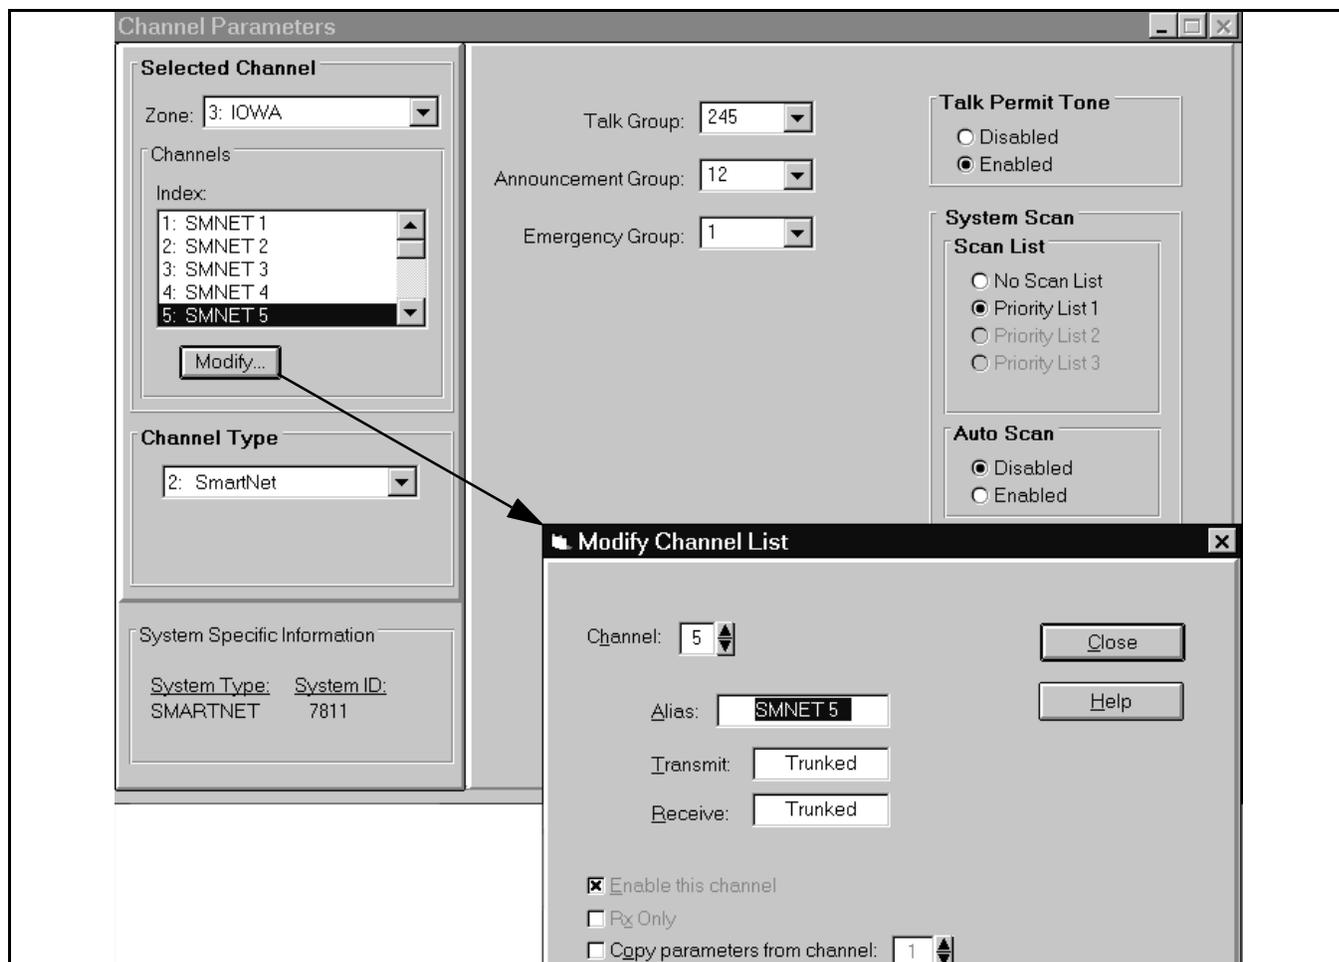

Figure 3-4 SMARTNET/SmartZone Channel Screen
The SMARTNET/SmartZone Channel screen shown in Figure 3-4 is displayed when the SMARTNET or SmartZone channel type is selected. This screen programs unique channel parameters and also assigns channels to the selectable zones displayed by the transceiver.
- Click the Modify button to display the dialog box shown in the lower part of Figure 3-4. This box programs the alias (tag) that is displayed when it is selected.
The following parameters are programmed in the SMARTNET/SmartZone channel screen shown in Figure 3-4.
**Modify...** - Displays the screen shown in the lower part of Figure 3-4. The parameters programmed in this screen are as follows: